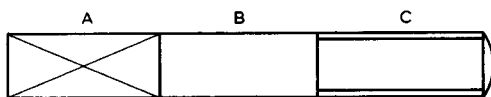

Fig. 3.85
13. Fig. 3.85 shows the side elevation of a solid component. State the cross-section of A and B. What is represented by C? [East Midlands Educational Union]